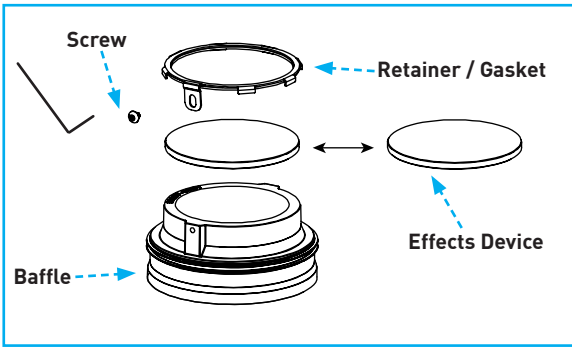

Fig.54
- To change lens / film, remove lens retainer and gasket by loosening and removing hex screw with the provided Allen wrench. Insert preferred lens / film in proper orientation, securing with lens retainer / gasket and replacing and tightening screws (*Fig.54*).